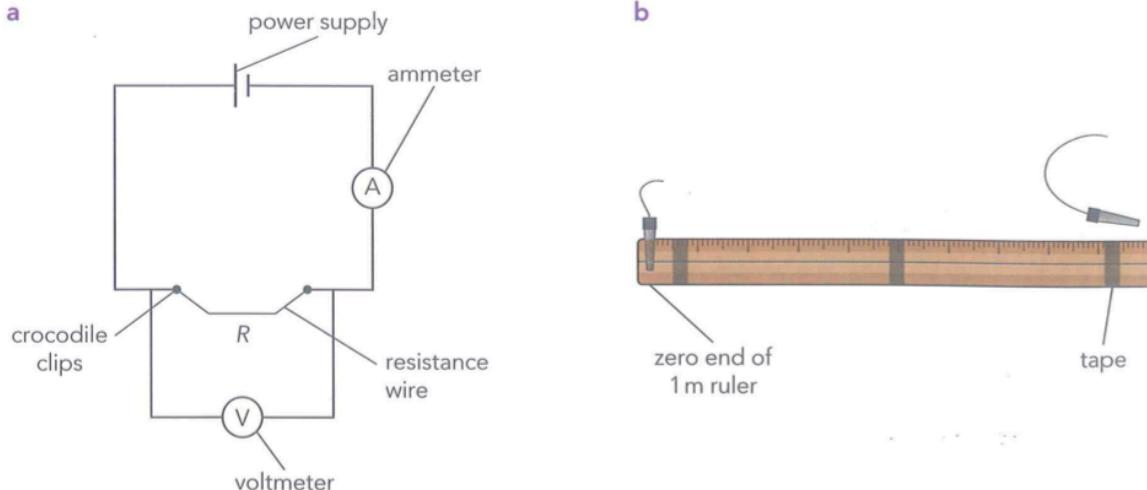

Figure 18.13a: Circuit diagram for the experiment. b: How to attach the wire to the ruler.
- 1 Set up the circuit as shown in Figure 18.13a. Set the power supply to 12V.